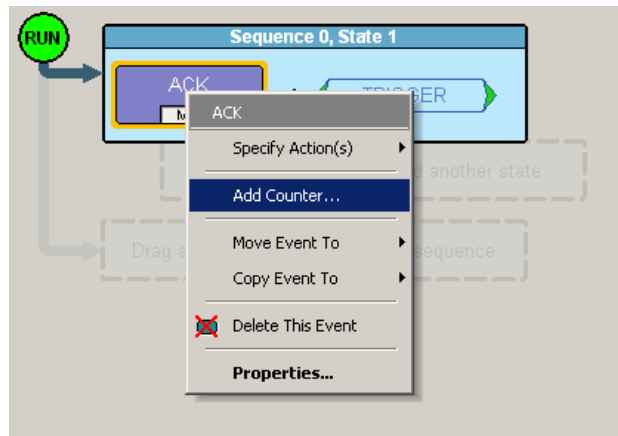

Figure 12.30 Example 2: Adding a Counter
- Step 3** From the Event pop-up menu, select the **Add Counter** option (Figure 12.30).